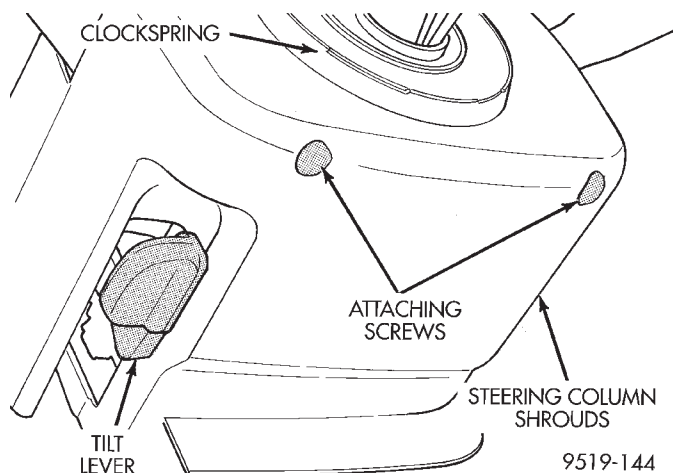

Fig. 11 Steering Column Shroud AttachingScrews
(16) Remove steering wheel assembly from steering column shaft using Puller, Snap-On CJ2001P or an equivalent.
(17) Remove the 2 screws attaching the upper and lower shrouds to the steering column (Fig. 11). First remove upper shroud from steering column, then release tilt lever and tilt steering column to its highest point. Then remove lower shroud from steering column.
(9) Install the upper and lower steering column shrouds onto the lock housing of the steering column assembly. Install and securely tighten the 2 upper to lower steering column shroud to lock housing attaching screws (Fig. 11).